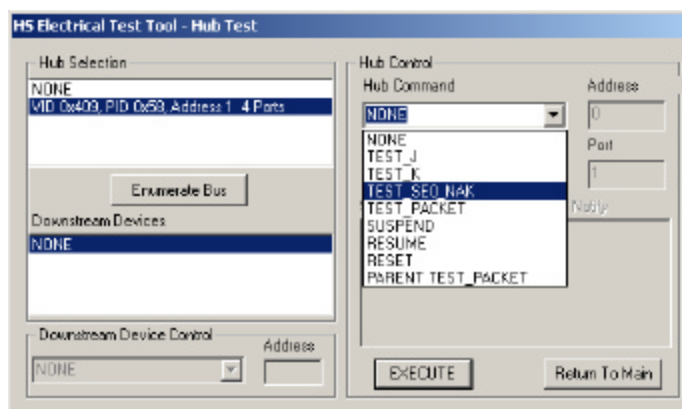

Figure 29. TEST_SE0_NAK – Hub Upstream Port
6. On the HS Electrical Test Tool – Hub Test menu, select TEST_SE0_NAK from the Hub Command drop down menu. Click [EXECUTE] once to place the hub into TEST_SE0_NAK test mode (Figure 29)